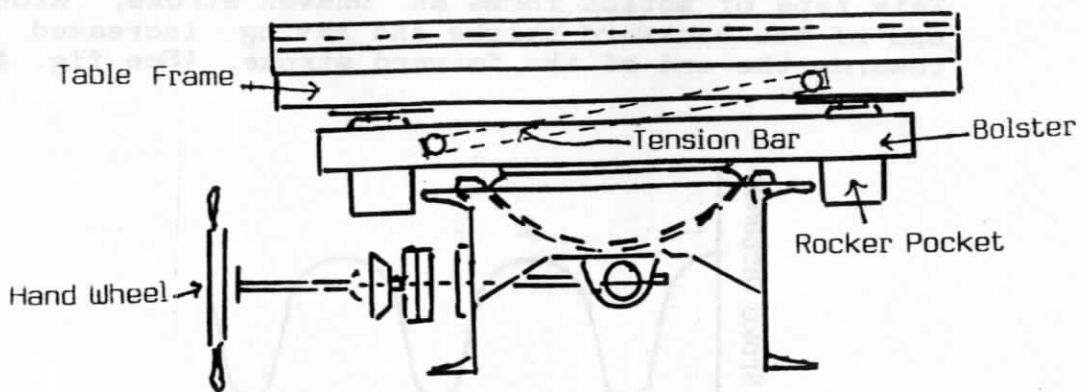

Fig. 12 The Tilting Mechanism
- (ii) Tilt of the deck: The deck may be tilted sideways, i.e. across the riffles, by way of a hand wheel that is connected to a gear which drives bolts attached to the bolsters on which the rockers supporting the table are located. (See fig. 12) The forward bolster is linked to the main frame by a tension bar that removes any vibration from the concentrate end of the table.